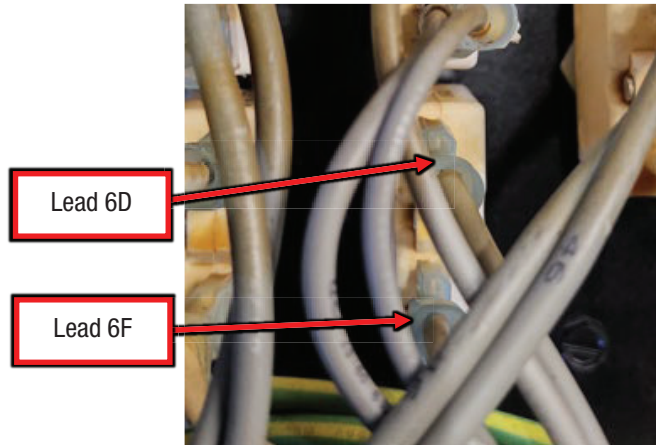

Figure F.2
A.2. Label and disconnect the following connections on CB3, refer to Figure F.2.